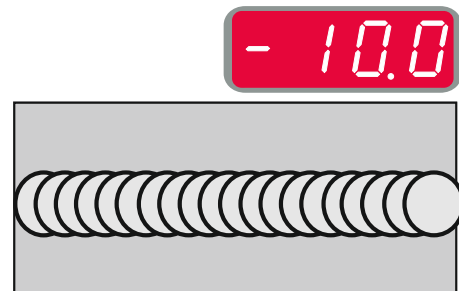

Figure 16.
- Frequency less than 0,0 – Wide weld and ripple spacing, slow travel speed. Figure 16 shows the spacing weld when the frequency is "-10".